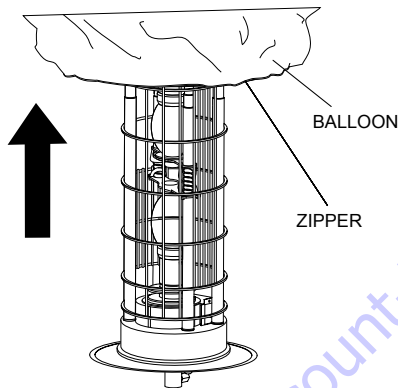

Figure 22. Exposing Balloon
1. Unzip the zipper at the bottom of the balloon and roll the balloon up to expose the lamp. See Figure 22.